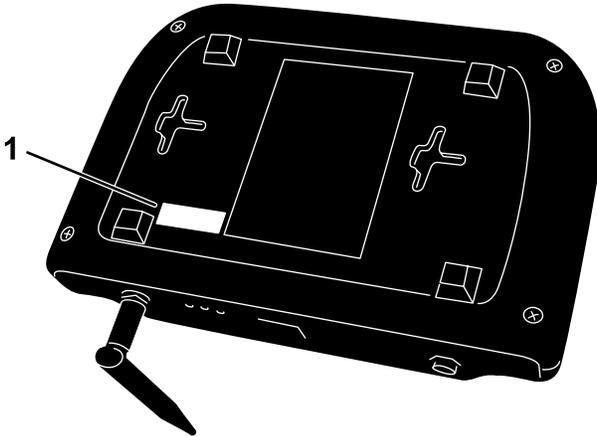

Figure 6
2. Find the device ID label on the bottom of the BaseStation and record the device ID from the label in the space provided on this document (Figure 6).